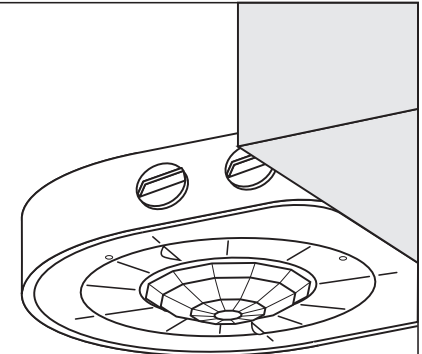

Figure 2
3. Slide the lock-nut over the wires and thread clockwise onto the threaded nipple to secure the sensor firmly in place making sure the lens is orientated towards the area to be monitored (field-of-view) (refer to Figure 2).